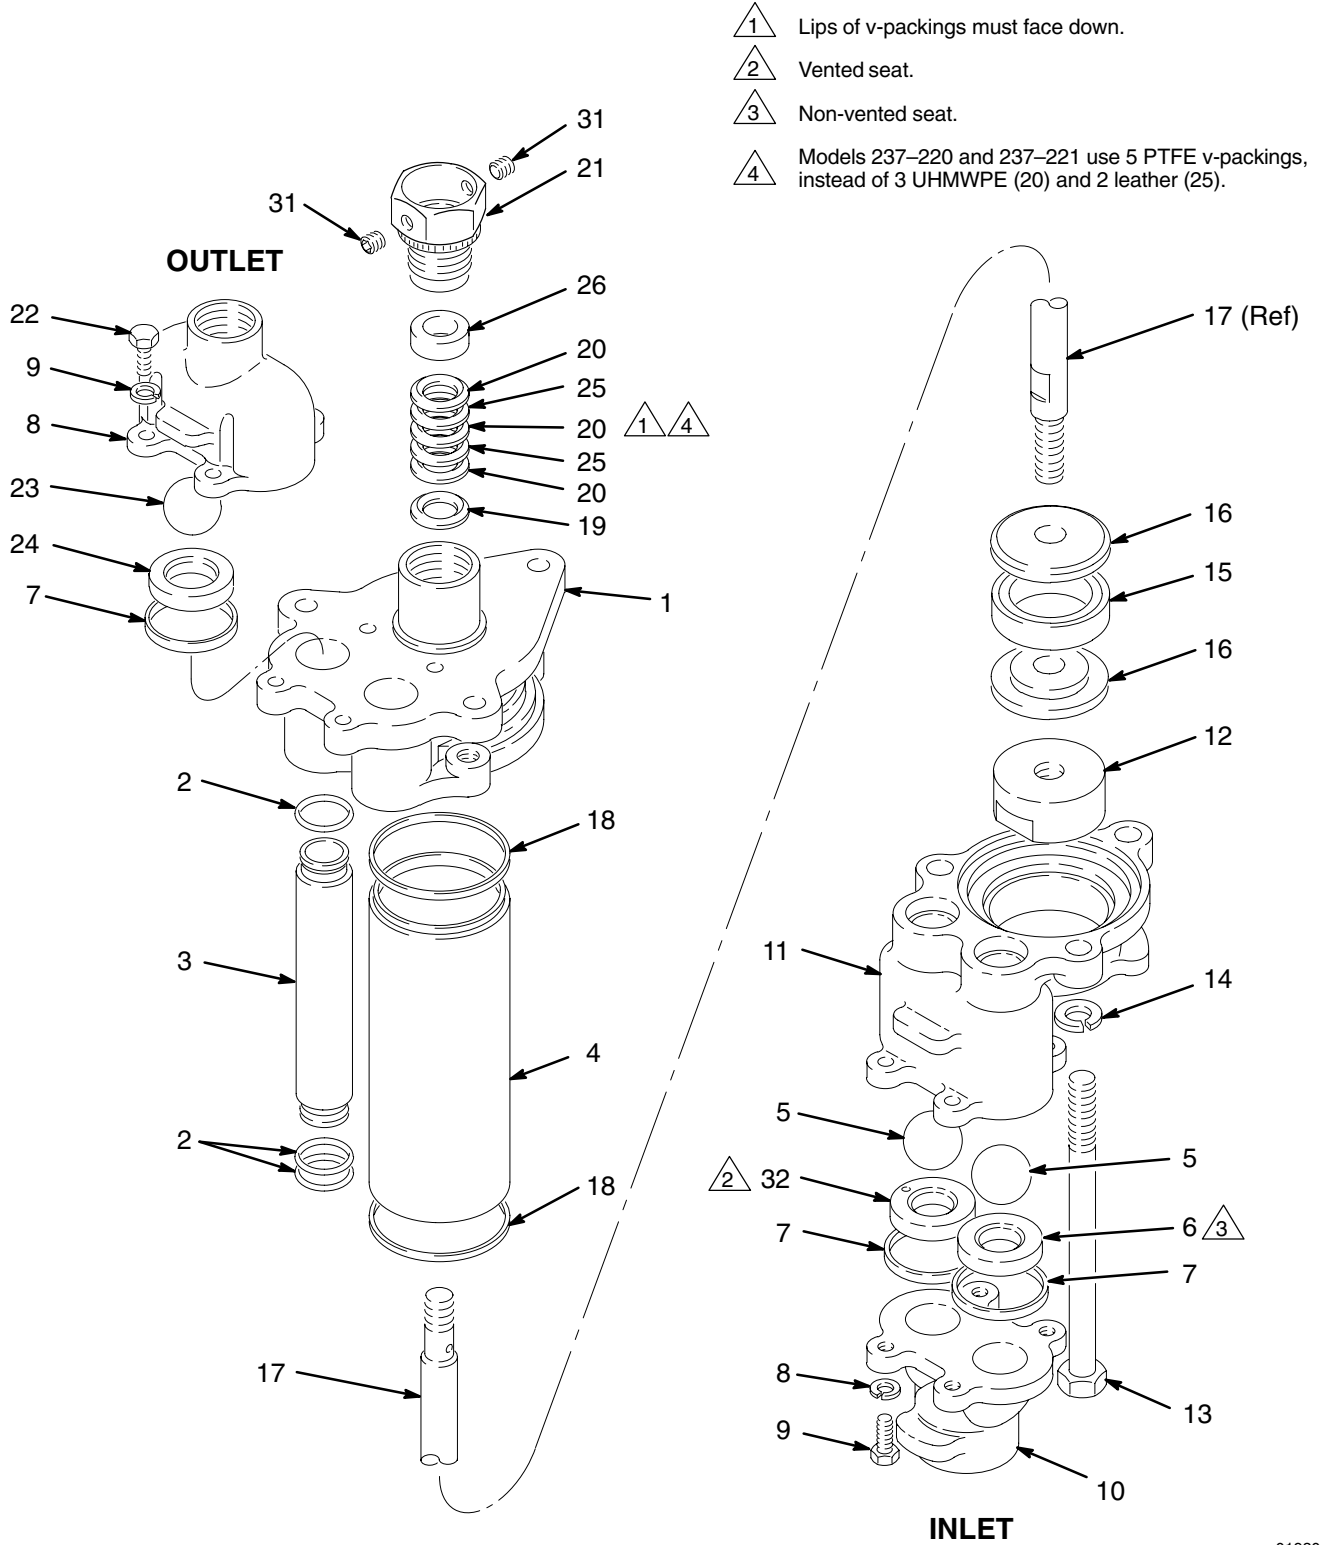

Fig. 9
2. Secure the displacement pump intake housing (10) in a vise.
3. Refer to Fig. 9. Remove the four capscrews (9) and washers (8) from around the pump outlet housing (22).
4. Remove the outlet housing (22), balls (23), seats (24) and gaskets (7).
5. Remove the three tie bolts (13) and lockwashers (14). Lift off the upper pump housing (1), along with the fluid tubes (3), cylinder (4), and piston assembly (16).
6. Remove the packing nut (21), glands (19, 26) and packings (20, 25) from the upper housing (1).
**NOTE:** Model 237–220 and 237–221 displacement pumps use 5 PTFE v-packings in the throat, instead of 3 UHMWPE (20) and 2 leather (25).
7. Remove the tubes (3) and cylinder (4) from the housing.
8. Remove the intake housing (10) from the vise.
9. Remove the four capscrews (9) and washers (8) from the intake housing (10). Use a flatblade screwdriver inserted between the lower pump housing (11) and the intake housing (10) to separate the parts.
10. Remove the balls (5), seats (6 and 32) and gaskets (7).
**NOTE:** One of the seats (32) has a vent hole. Take note of the side of the pump in which this seat is used (the left side when viewed as shown in Fig. 9).
2. Apply thread sealant to the piston rod (17) threads. Screw the rod through the piston and packings and into the special piston nut (12). Torque the nut to 68–81 N•m (50–60 ft-lb).
3. With the lower pump housing (11) turned upside down, install the balls (5). Install the seats; place the vented seat (32) in the left side as viewed in Fig. 9 (housing has a label to identify the correct side), and the non-vented seat (6) in the right side. Install the gaskets (7\*).